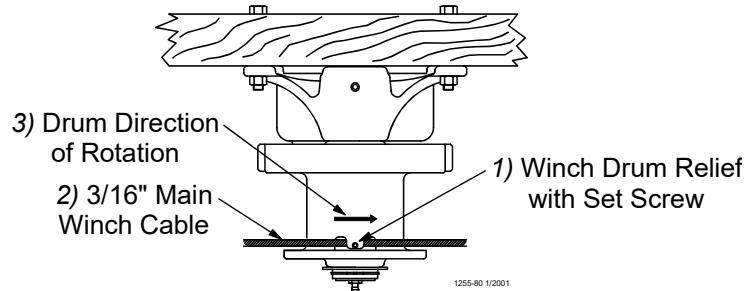

Figure 8. Attaching the Cable to the Power Winch
- Route the cable through the Winch Drum Relief located near the bottom of the drum. Tighten the set screw to anchor the cable to the drum. See **Figure 8.**